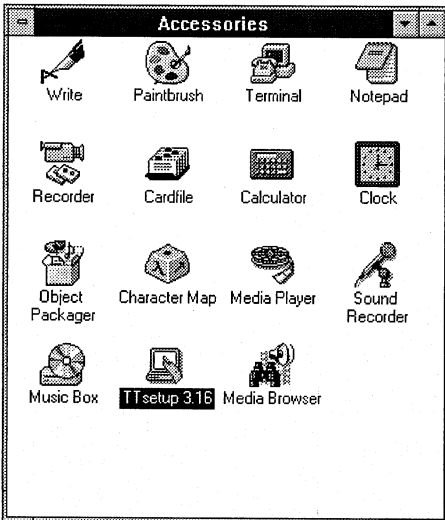

fig. A-14
1. Start Windows and open TTsetup (fig. A-14).